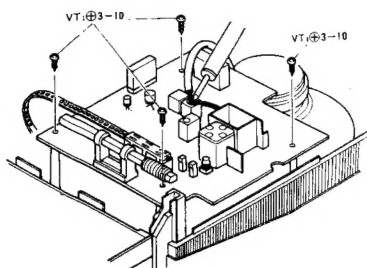

Fig. 3
- 1) Remove the 4 screws and use a soldering iron to release the braided Cable. (See figure 3)